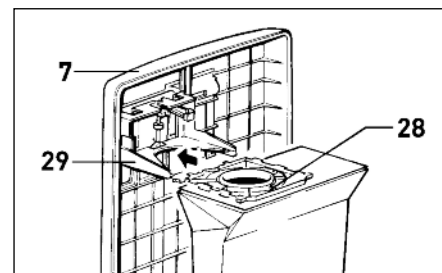

Figure 10
## Changing the Dust Bag - Figure 10
2. Bag not inserted properly	2. Reinsert bag with cover release flap (5) up, until firmly latched in bag holder (see pg. 9 figure 10).